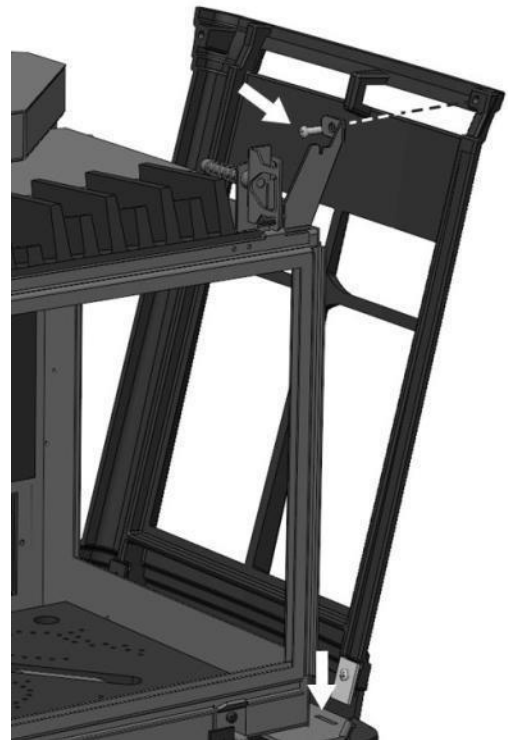

Figure 44 – Side Panel Mounting Detail
3. To dismount the side panels, first remove the top and front façade. Remove the top front machine screw while holding the panel, and then lift the side panel off the stove (*See Figure 44*).